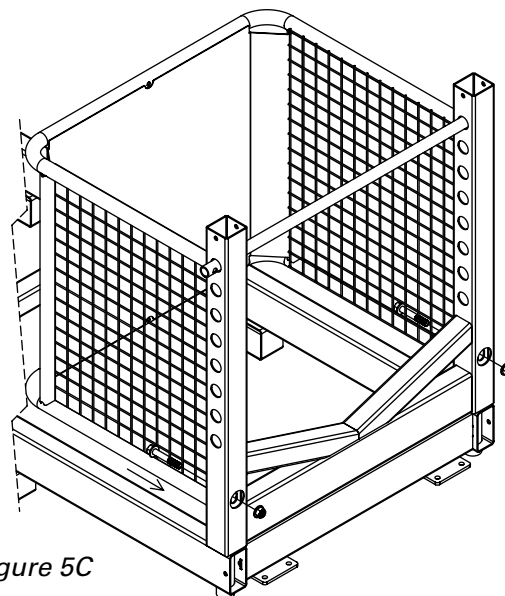

Figure 5C
3. Replace both of the assembly bolts to secure the extension basket to the base. (See Figure 5C).
1. Ensure that both of the extension baskets are in the collapsed position and all assembly hardware is installed and tightened. (See Figure 5C on page 5 for proper positioning).